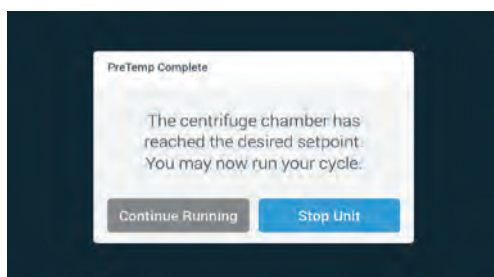

Figure 3–23: Pre-Temp Complete Pop-up Window
5. When the centrifugation chamber temperature reaches the pre-tempering setpoint, the “Pre-Temp Complete” pop-up window shown in Figure 3–23 appears, announcing that the centrifuge is correctly pre-tempered and ready.